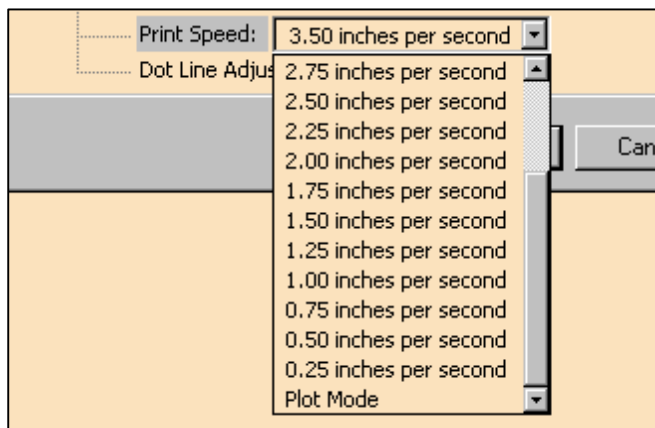

Figure 26:
- When operating the printer in a low-rate data acquisition scenario. If the application sends individual lines of data, at a rate below 50 lines per second, 'Plot Mode' directs the printer to smoothly print one line at a time (Figure 26).